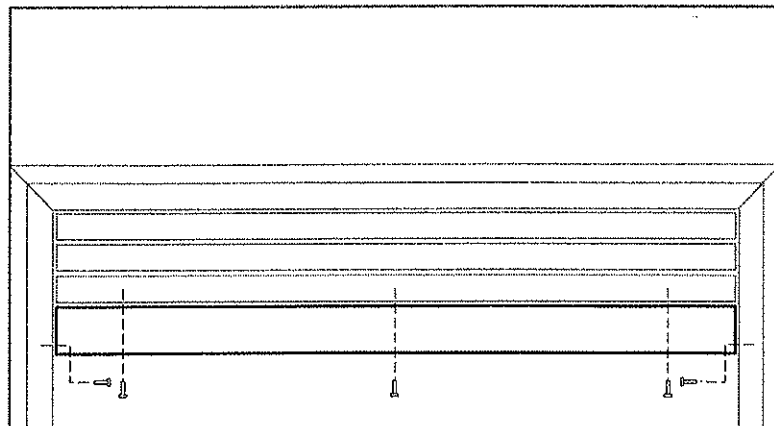

Figure 4. Canopy Installation
1. Open the door and remove the two (2) screws that mount the screen frame on the sides frame.
2. Align the black canopy with the holes in the top frame assembly. *Refer to Figure 4*
3. Install the three (3) screws which attach the canopy to the top frame assembly. Install the two (2) screws which attach to the side frame. *Refer to Figure 4*
4. Tighten all screws, make sure the canopy is level and secure. Install the two (2) screws that mount the screen frame.